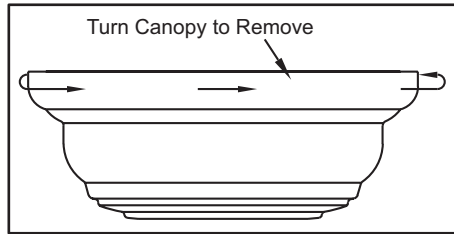

Figure 5
1. Remove the canopy from the canopy by turning the ring to the right until it unlocks (Figure 5).
- Remove the canopy ring from the canopy by turning the ring to the right until it unlocks (Figure 5).